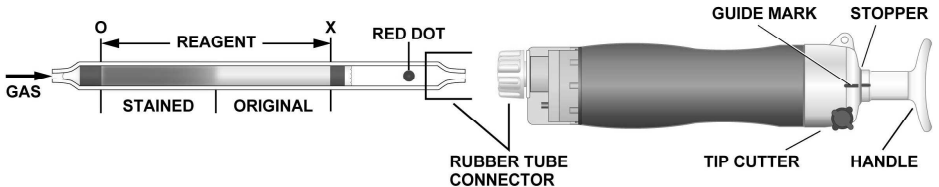

Fig.1
- ① Break both ends of the detector tube.
- ② Insert the detector tube into the aspirating pump securely as shown in Fig.1.
- ③ Align the guide marks on the shaft and stopper of the aspirating pump.
- ④ Pull the pump handle at a full stroke until it locks and wait for 3 minutes or until the completion of sampling is confirmed with the flow indicator of the pump. (See descriptions about the flow indicator in the instruction manual of the pump.)
- ⑤ On completion of sampling, remove the detector tube from the pump and read the enclosed concentration with the concentration chart in the following way.